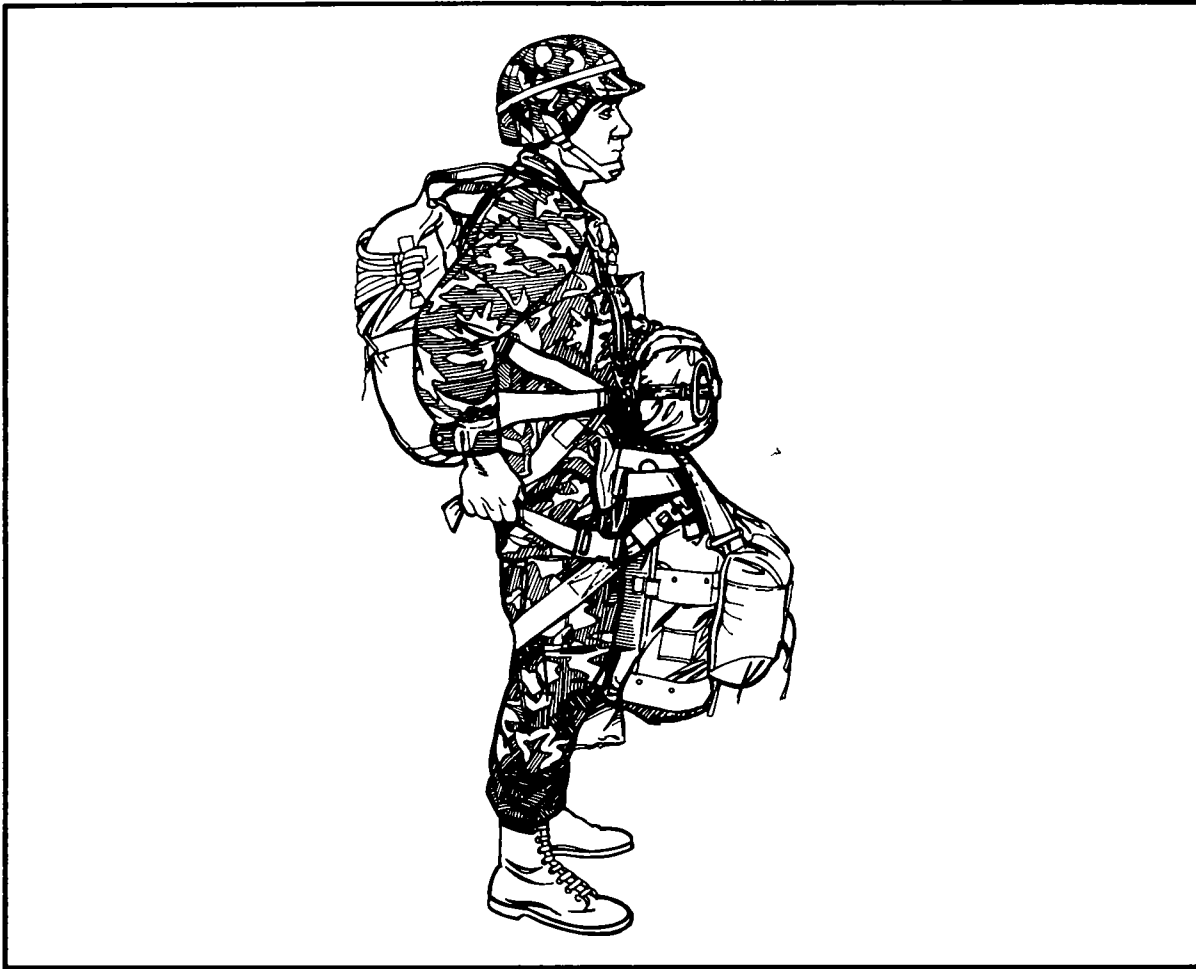

Figure 6-13. Parachutist adjusts leg straps.
a. The parachutist stands in front of the harness single-point release rigged ALICE pack. He grasps the harness by the two attaching harness straps and secures them to the D-rings on the main lift webb outside of the connector snaps of the T-10 reserve (Figure 6-13).